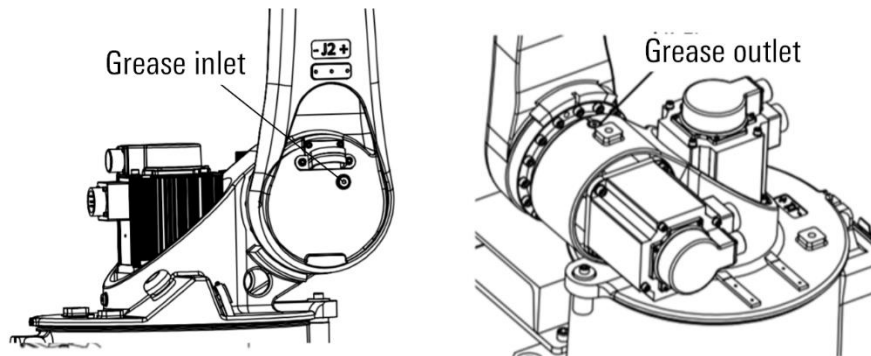

Figure 12-7 AIR12-1420 replacing the J2 axis reducer grease
- Step4. Remove the M10x1 plug of grease discharge port, as shown in Figure 12-7.